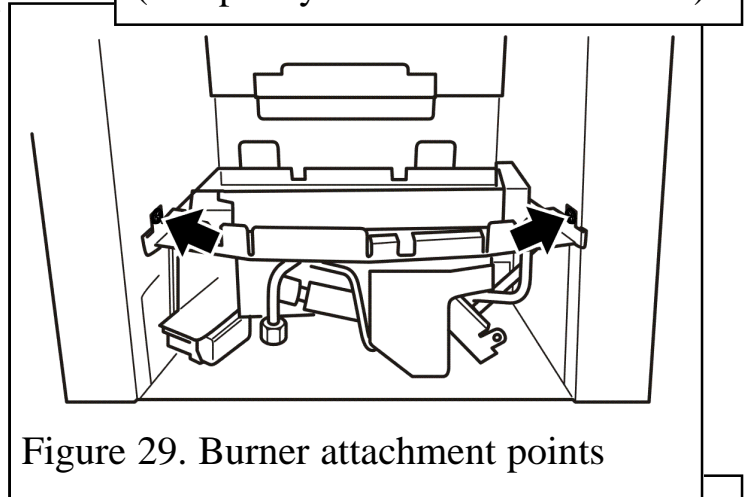

Figure 29. Burner attachment points
4. Detach the burner unit from the convection box by removing two screws (See figure 29).